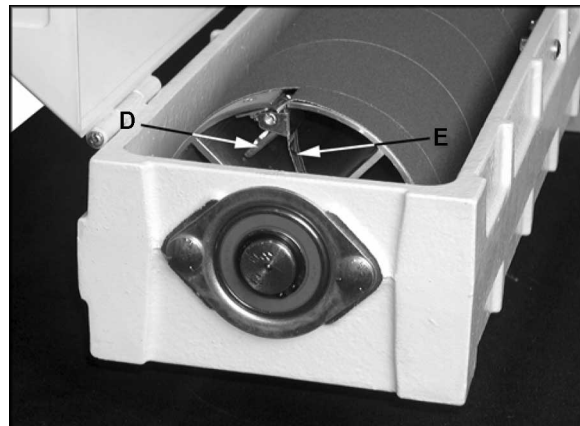

Figure 9
2. Raise the fastener lever (D, Figure 9) on the outboard end of drum, and insert the tapered end of the abrasive (E, Figure 9) so that it uses most of the width of the slot. Release the fastener lever to securely hold the strip end to the fastener.